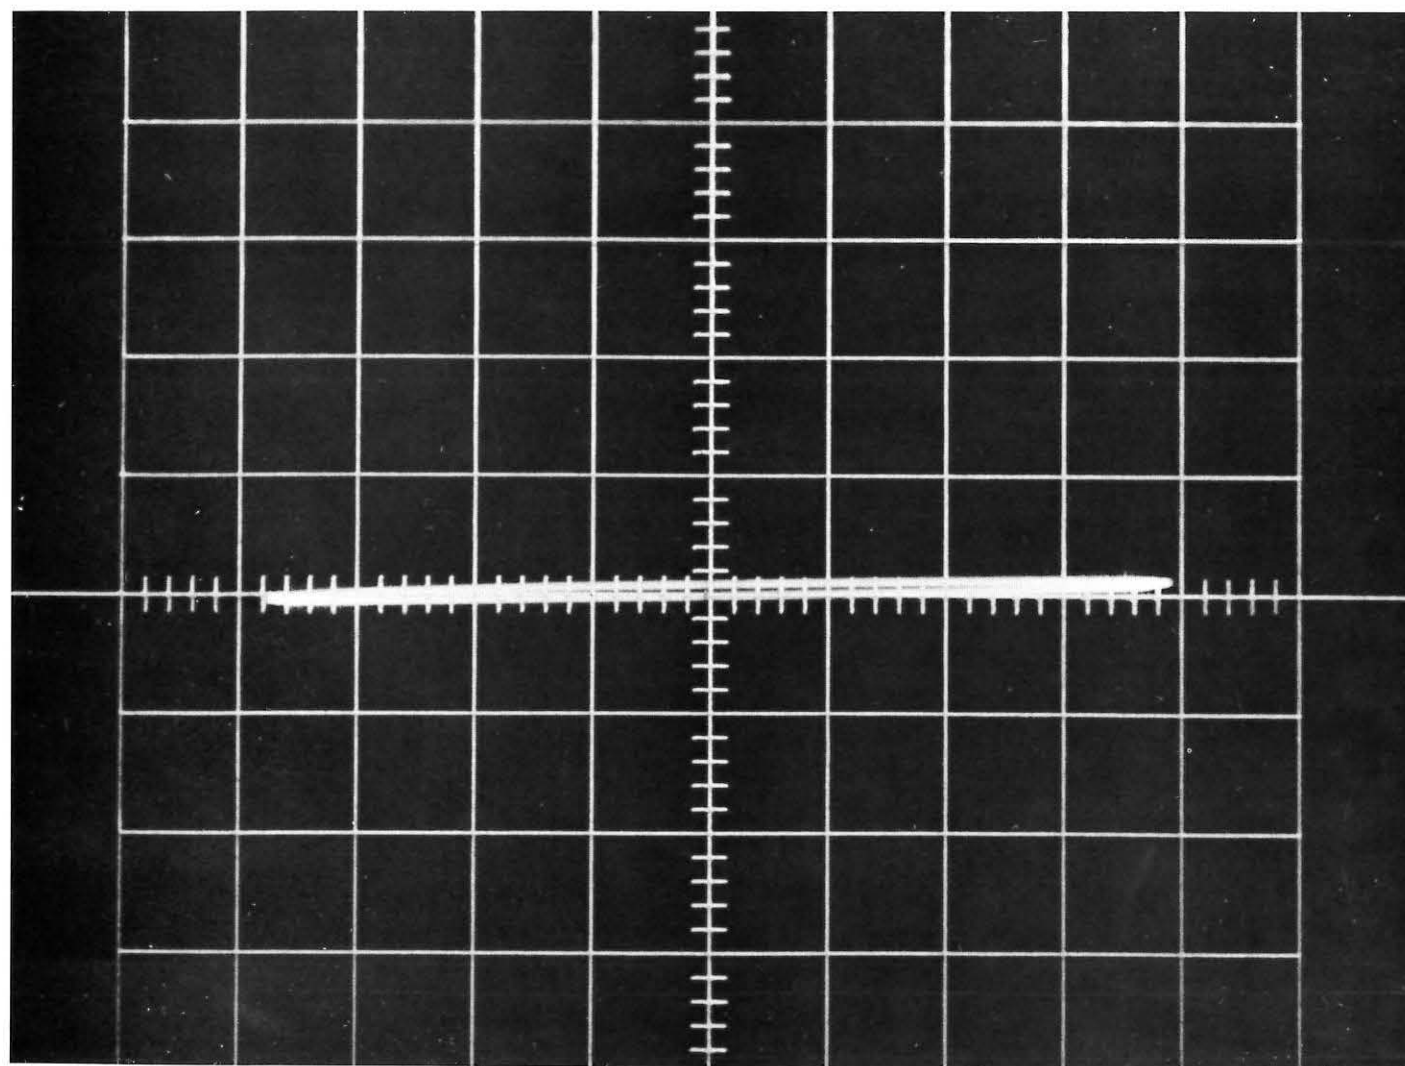
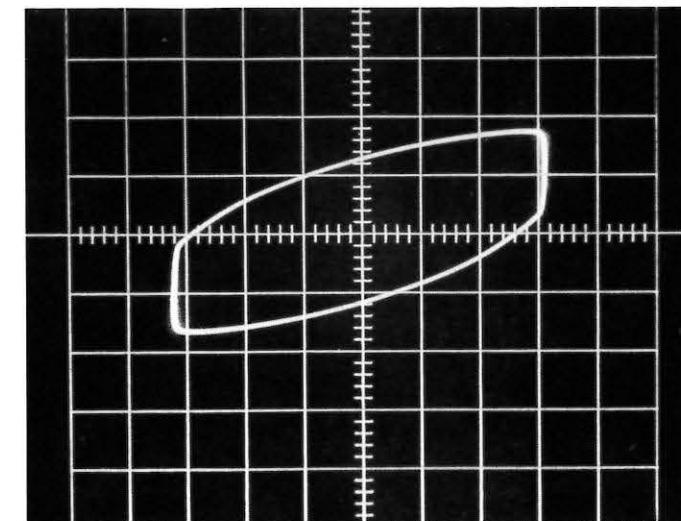

Figure 9a. Charge versus voltage plot below the onset of electroluminescence of a green (ZnS:TbF3) ac EL thin film device.
Figure 9b. Charge versus voltage plot during luminescence of a green (ZnS:TbF3) ac EL thin film device.
**3.2. Performance:** The successful operation of these devices depends on the quality of the insulating layer, i.e. its dielectric strength. Below the threshold voltage necessary for EL, the ZnS phosphor layer is insulating. Therefore, the applied voltage is distributed among the different layers according to their thicknesses and dielectric constants. A plot of charge Q versus voltage is shown in Figure 9a where the device behaves almost like a low loss capacitor and the observed charge is due to dipole charges at the various interfaces. When the applied voltage increases above the threshold voltage, charge is transported from one side of the phosphor layer to the other side and returns back upon voltage reversal. This gives rise to the observed hysteresis in the Q-V plot shown in Figure 9b. It is interesting to note that increasing the voltage bias above threshold results in a substantial increase in the amount of charge while the voltage seems to be almost clamped. Assuming that the observed charge arises mainly from the ZnS phosphor layer, the extra voltage increase, above threshold, must therefore be accommodated by the two outer insulator layers. Important parameters can be deduced from Q-V plots, such as efficiency and power dissipation.16